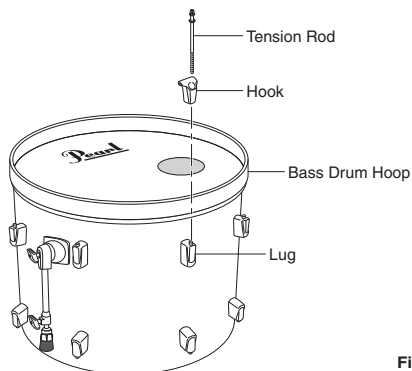

Fig.2
2. Pass a Tension Rod through a Hook, and hook it on the Bass Drum Hoop above a Lug. Finger tighten the Tension Rod into the Lug and do the same with the rest of the Tension Rods/Hooks on this side of the drum (Fig.2). Using a Tuning Key, tighten the Tension Rod until secure (Refer to the "Basic Tuning" section at the end of this manual).